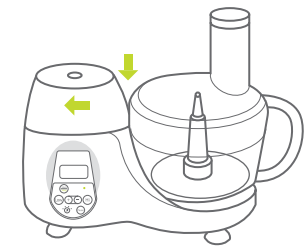

Fig. 8
1. Put the housing cap on the housing, and turn it clockwise. (Fig. 8)